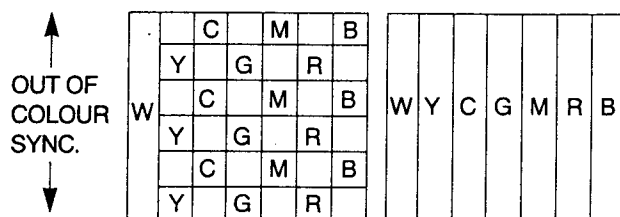

Figure 6
- 3) Adjust the APC control (C541) so that the colour bar pattern stands still vertically or drifts slowly across the picture screen (See Fig. 6).